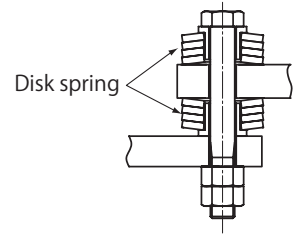
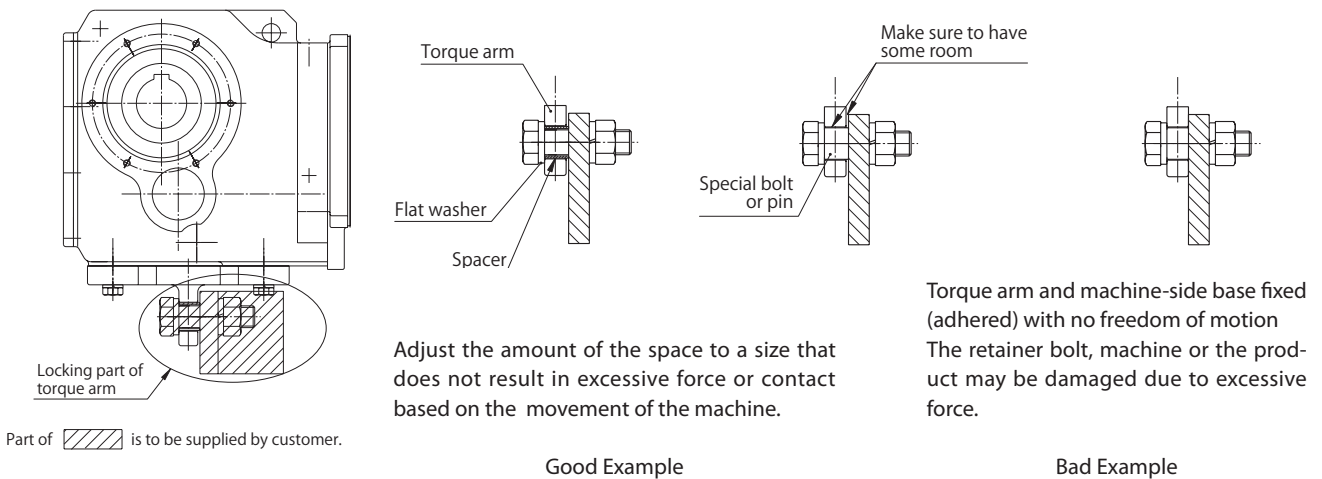

Figure 5-12 Disk Spring
Figure 5-13 Retainer Mounting Examples (Attachment Type Torque Arm)
- (1) Mount the torque arm on the driven shaft machine side of the case.
- (2) Ensure there is some degree of freedom for the torque arm retainer (Figure 5-13, 5-14) so that no excessive force is applied between the product and the driven shaft. (The retainer is to be prepared by the customer.)
- (3) Never fix the torque arm using a retainer bolt.
- (4) If frequent starting and stopping are expected, or for repetitious plugging operations, attach a disk spring (see Fig. 5-12) between the torque arm and the mounting bolt (or spacer) as a buffer material to lessen the impact.
- (5) Use bolts that have a strength class of at least 10.9 (JIS B 1051).
- (6) When installing the torque arm, be sure to lock the bolt. (Use spring washers, U nuts, or apply locking adhesive.)